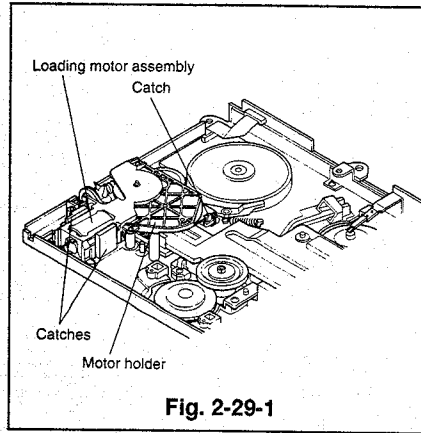
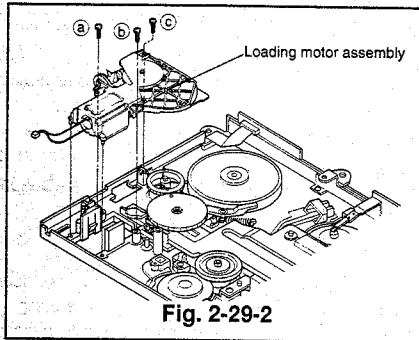

Fig. 2-29-1
Fig. 2-29-2
- 2 Remove the three screws (a, b and c) as shown in Fig. 2-29-2 and unfasten the three catches to remove the loading motor assembly (which holds the motor holder). (Refer to Fig. 2-29-1)
- 7 Install the loading motor assembly (which holds the motor holder) in the position shown in Fig. 2-29-2 and secure it with the three screws (a, b and c).